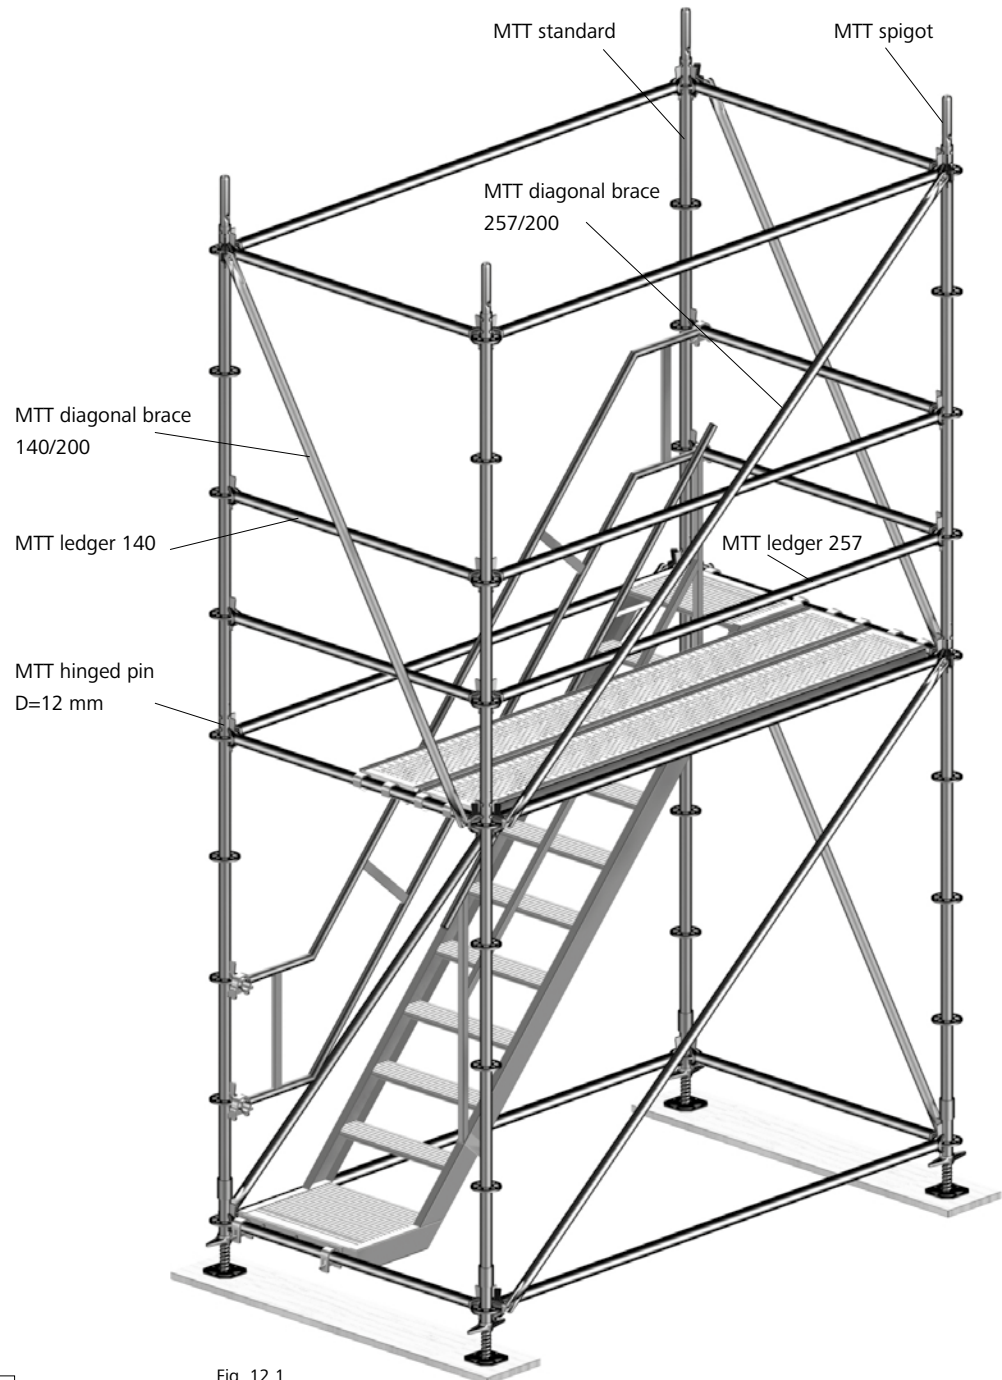

Fig. 12.1
22. Stabilise the frame with diagonal braces (Fig. 12.1).